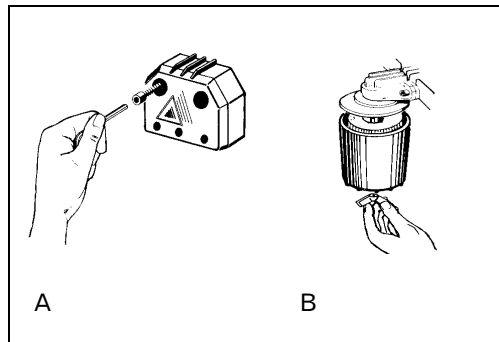

Abb. 3: Suction filter
- Unscrew either the oil filler neck 3 or oil dipstick 4 (cf. Fig. 3: Compressor aggregate).